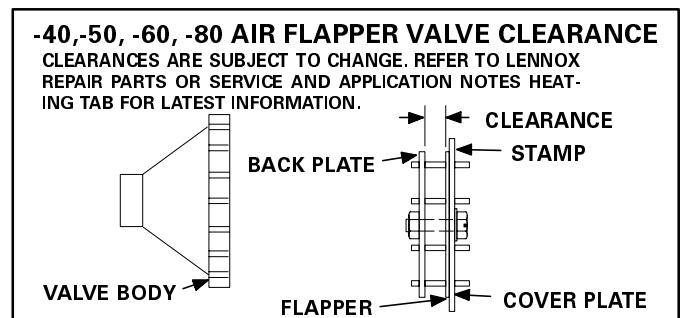

FIGURE 47
- 5 - To find potential warpage in the plates, check for the required clearance between the flapper and back plate in several places around the circumference of the valve. See figure 47. Use a feeler gauge, starting small and working up to the clearance dimension until the gauge is just about snug.